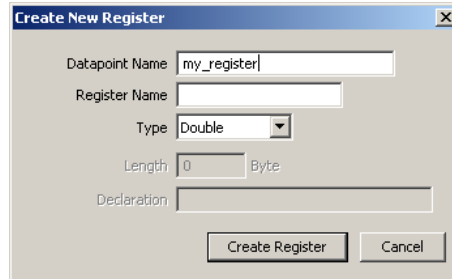

Figure 111: Create a user register.
- Right-click in the data point list and select **New Datapoint...** in the context menu. This opens the register creation dialog as shown in Figure 111.